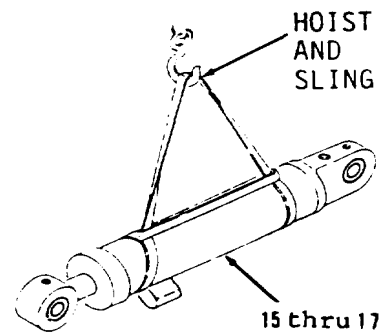
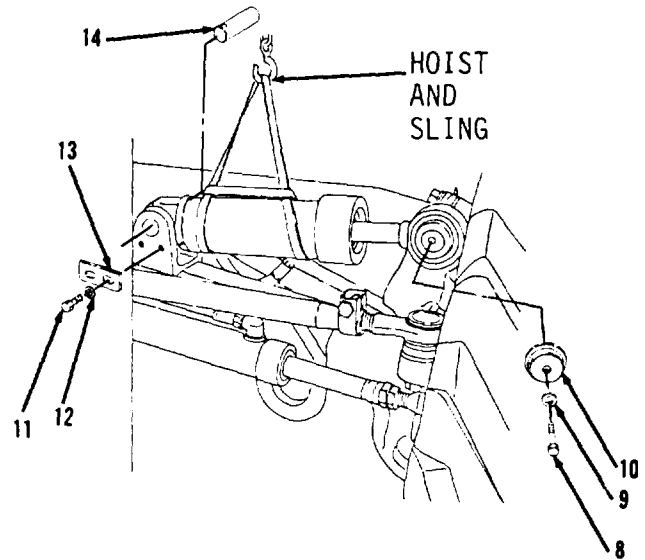

Figure 5-109.
Figure 5-108.
5. Install hoist and sling on items 15 thru 17 as an assembly (Figure 5-109).
6. Remove bolt (8), washer (9) and retainer (10, Figure 5-108).
7. Remove two bolts (11), washers (12), lock (13) and pin (14).
8. Remove items 15 thru 17 as an assembly (Figure 5-109) from vehicle.